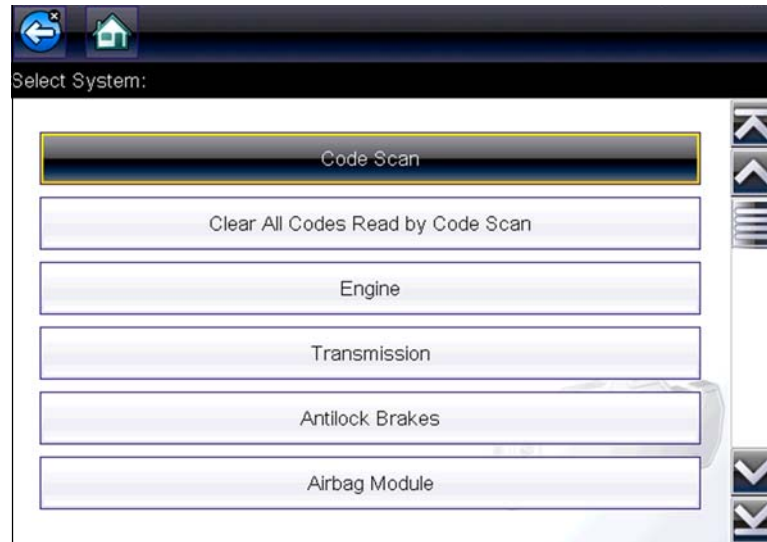

Figure 6-4 Typical systems menu
4. After the vehicle is identified, a menu of available systems, and options are displayed. Select a system or option (Figure 6-4).